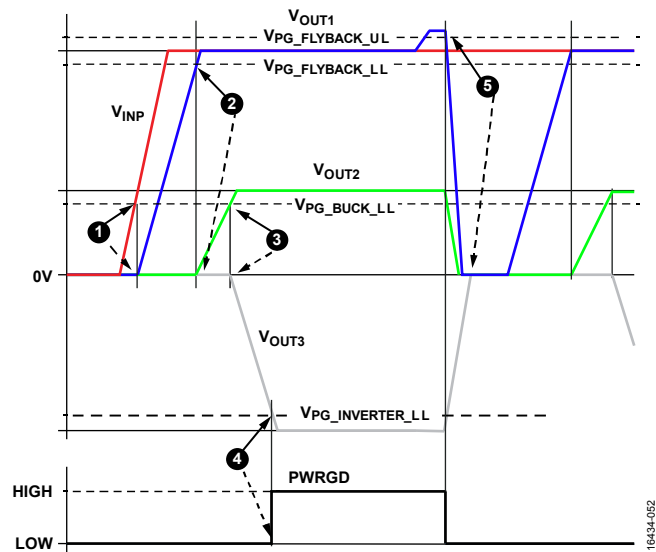

Figure 66. Power-Up Sequencing and PWRGD
The power-up sequence is as follows (see Figure 66):
1. The flyback regulator powers up first (see 1 in Figure 66).
2. When VOUT1 rises above the lower power-good threshold ($V_{PG_FLYBACK_LL}$), the buck regulator turns on (see 2 in Figure 66).
3. When the buck regulator output (VOUT2) rises above the lower power-good threshold ($V_{PG_BUCK_LL}$), the inverting regulator turns on (see 3 in Figure 66).
4. PWRGD is driven high when the inverting regulator output (VOUT3) is below the power-good threshold, $V_{PG_INVERTER_LL}$ (see 4 in Figure 66).
5. If any of the three analog supplies move outside the power-good threshold ranges, PWRGD drives low after a short deglitch delay (see 5 in Figure 66).